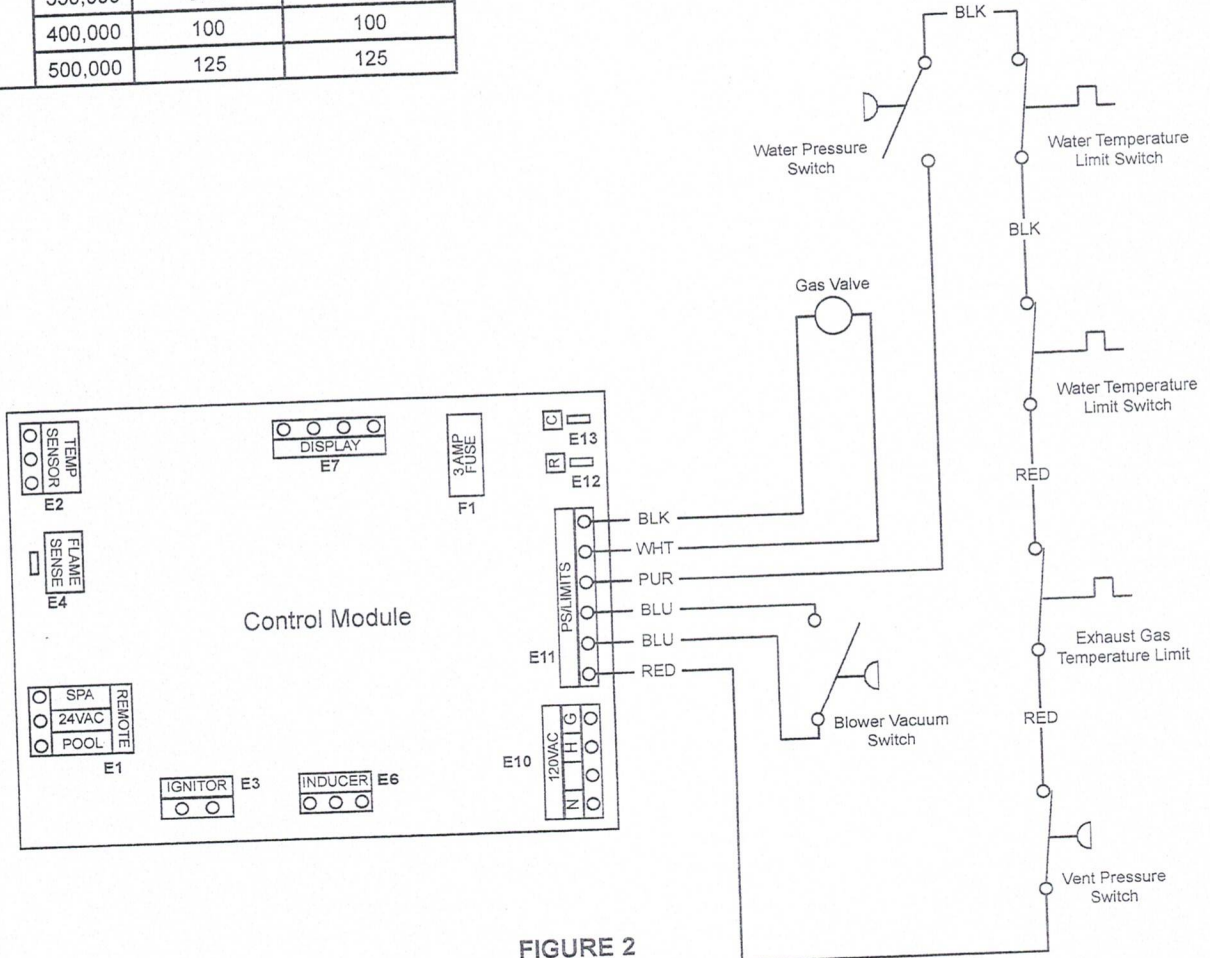

FIGURE 2
12. Connect the jumper wire included with this kit onto one of the terminals on the vent pressure switch. Unplug the in-line quick connect on the red wire in the heater wire harness and connect the vent pressure switch in series with the red wire. See excerpt from heater wiring schematic in Figure 2. If you are refitting a heater with an FDXLRGK1xxx kit, you will need to splice into the wire harness red wire which attaches to the water pressure switch. The vent pressure switch should be in series with the water pressure switch.